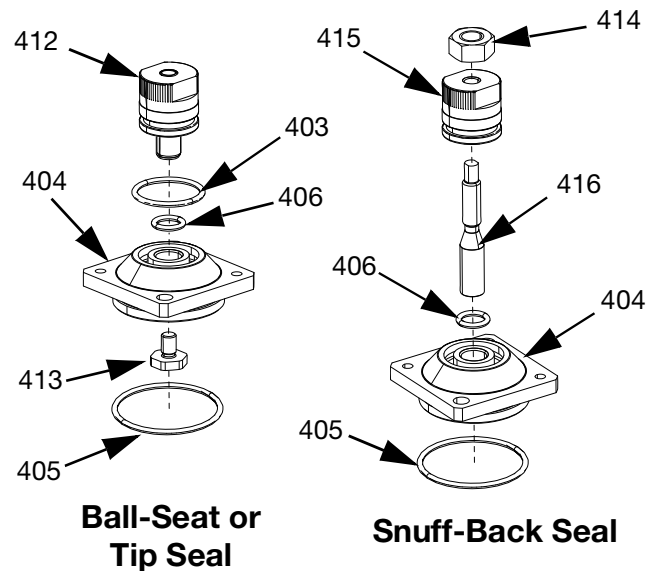
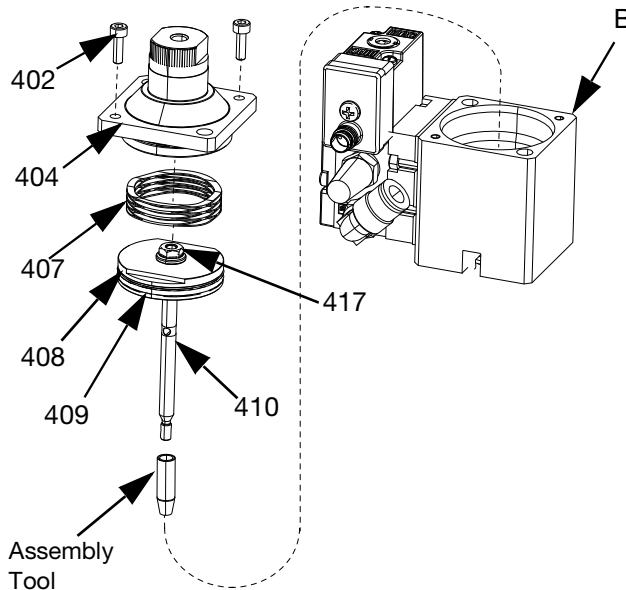

FIG. 21
FIG. 22
1. To assemble the air cylinder cap (404) on valves with ball-seat or tip seal assemblies:
- a. Install the o-ring (403) on the knob assembly (412). Place the o-ring (406) in the air cylinder cap (404). See FIG. 21.
- b. Grease the o-ring (403) on the knob assembly (412) and screw it into the air cylinder cap (404). See FIG. 21.
- c. Apply the supplied blue anaerobic adhesive to the adjuster stop threads (413) and screw it into the knob assembly (412). Torque to 8-10 in-lbs (0.90 - 1.2 N•m). See FIG. 21.
2. To assemble the air cylinder cap (404) on valves with snuff-back tip assemblies:
- a. Install the o-ring (406) into the air cylinder cap (404). Insert the rod adapter (416) into the air cylinder cap (404). See FIG. 21.
- b. Install the o-ring (405) onto the air cylinder cap (404). See FIG. 21.
- c. Thread the knob assembly (415) and the locknut (414) onto the rod adapter (416). See FIG. 21.
3. To assemble the Air Section (B) on valves with ball-seat or tip seal assemblies:
- a. Replace the piston o-ring (408) if it is scratched, cut, or worn. See FIG. 22.
- b. Apply the assembly tool to the tip of the piston rod (410), then insert it into the Air Section (B). See FIG. 22.
- d. Place the spring (407) on the top of the piston (409). See FIG. 22. Replace the air cylinder cap (404) and insert the screws (402). Press down on the air cylinder cap (404) to compress the spring (407). Torque to 8-10 in-lbs (0.90 - 1.12 N•m).